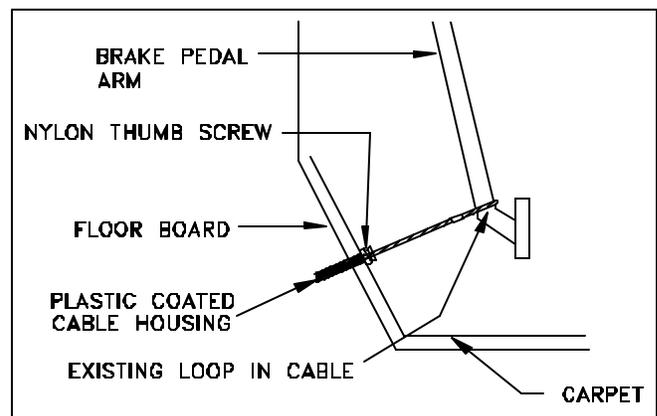
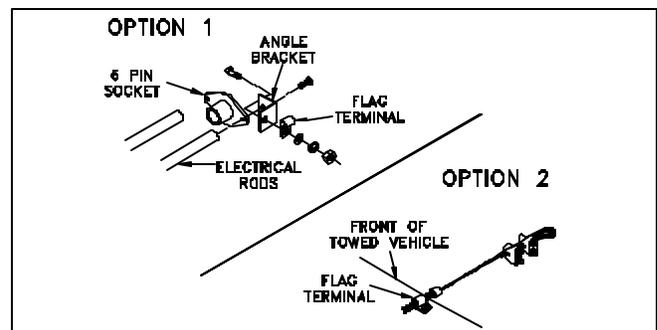

Figure 4
Figure 5
- Lubricate the cable with silicon spray and feed the cable back through the front end of the cable housing into the passengers compartment. Loop the cable around the brake pedal arm allowing the cable to feed directly and straight into the cable housing. If alignment is proper, the cable will feed into the cable housing when the brake pedal is depressed. See Figure 4. Leave 1/2" of cable housing extending from the flag terminal on the front of the vehicle. See Figure 5.
5. Now you are ready to install the coated brake cable housing in the towed vehicle. Pull the inside cable from the housing and set aside. The cable should run through the hole drilled in the floor board into the engine compartment. Visually select a route that will not interfere with any moving components or possibly contact electrical terminals. Route the cable to the central area (preferably through the opening where the attachment tabs extend through) of the front plastic fascia. The cable housing should be fastened in the engine compartment (on frame) with flag type terminals provided in parts bag. Fasten the end of the plastic housing to the baseplate with the supplied angle bracket. Figure 5
NOTE: Flag terminals are used so the cable housing is stationary allowing the inside cable to move freely. When installed properly, the nylon thumb screw should be showing on top of the carpet. Avoid abrupt bends in the cable housing as this will cause friction and premature wear of the cable. The cable housing should protrude a 1/2 inch beyond the bumper, or bumper skirt or wherever the flag terminal is mounted, pointing directly at the hitch ball. Figure 5